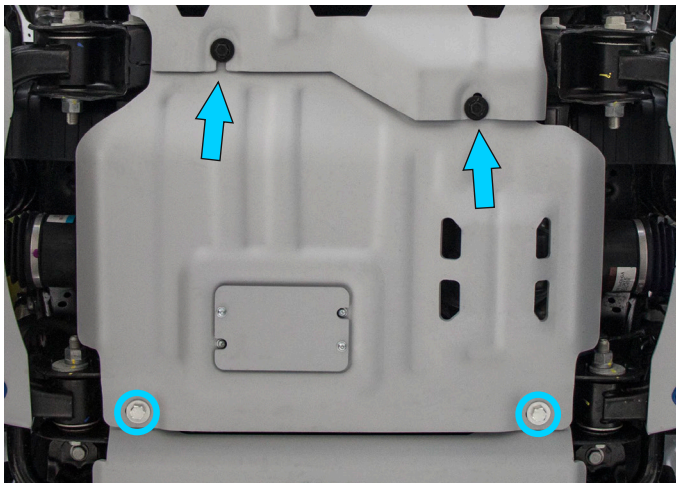

Fig. 3
2. Slide the front part of skid plate (item 1) on the pre-installed bolts M10x30 with washers 10 from step 1. Fix the rear part of engine skid plate using bolts M10x30 (item A), washers 10 (item B) and spacers (item C) as shown in fig.3. Tighten bolts M10x30 (item A) from step 1.